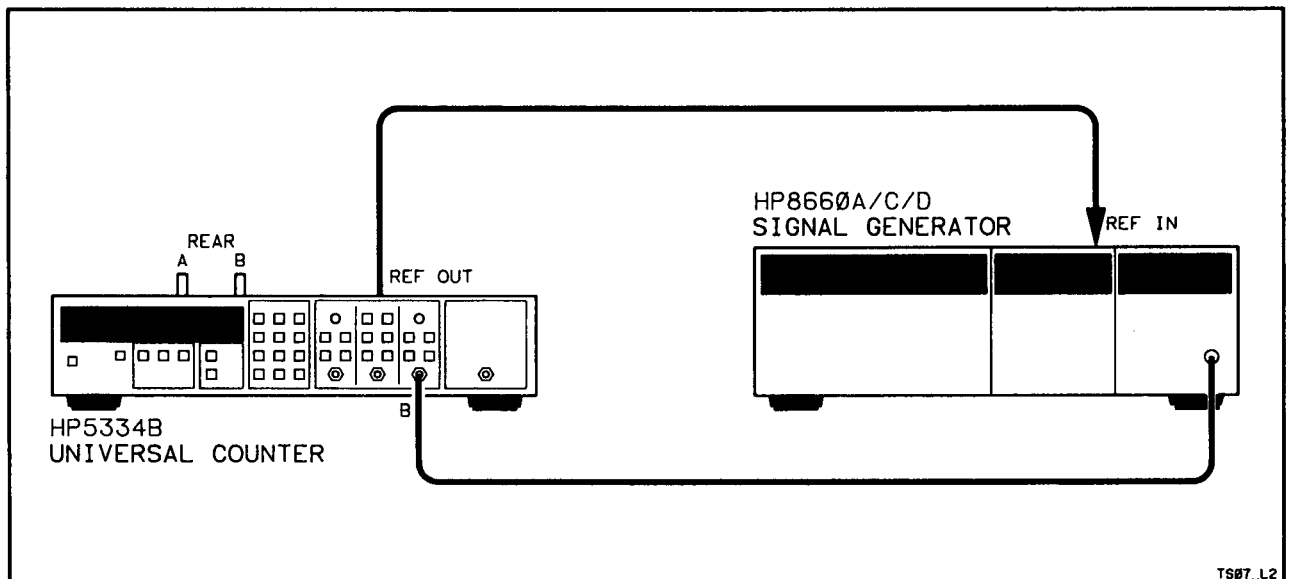

Figure 4-7. Channel B Frequency and Sensitivity Setup
4. Connect the signal generator to the HP 5334B front panel Input B as shown in *Figure 4-7*.